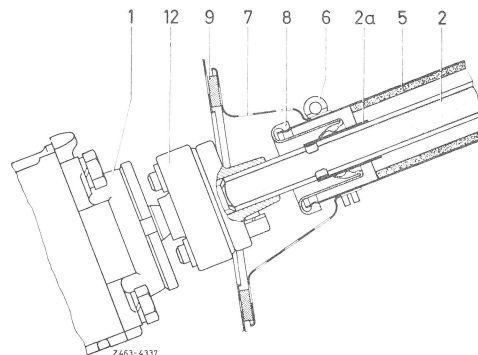

Fig. 4
The steering spindle should not be displaced axially when inserted into steering coupling. In addition, make sure that the sleeve (8) is not damaged or pushed away from jacket tube (Fig. 4).